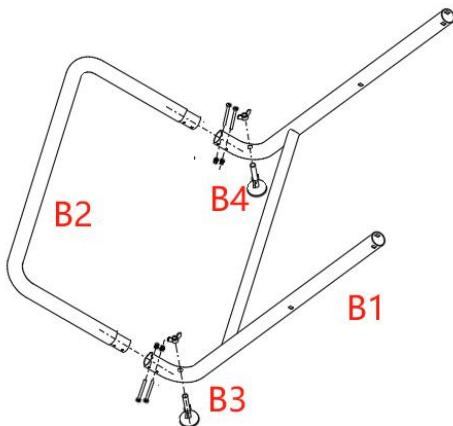

Fig.2
(Fig. 2)
4. Place part B1 flat as shown in Figure 2, align the steel pipes of part B2 with the steel pipe holes at both ends of part B1, insert them and align them with the small holes on the side. Take two M5 * 35 bolts and thread them through the outer face, then tighten the M5 nylon nut. Lock the other bolt in the same way.